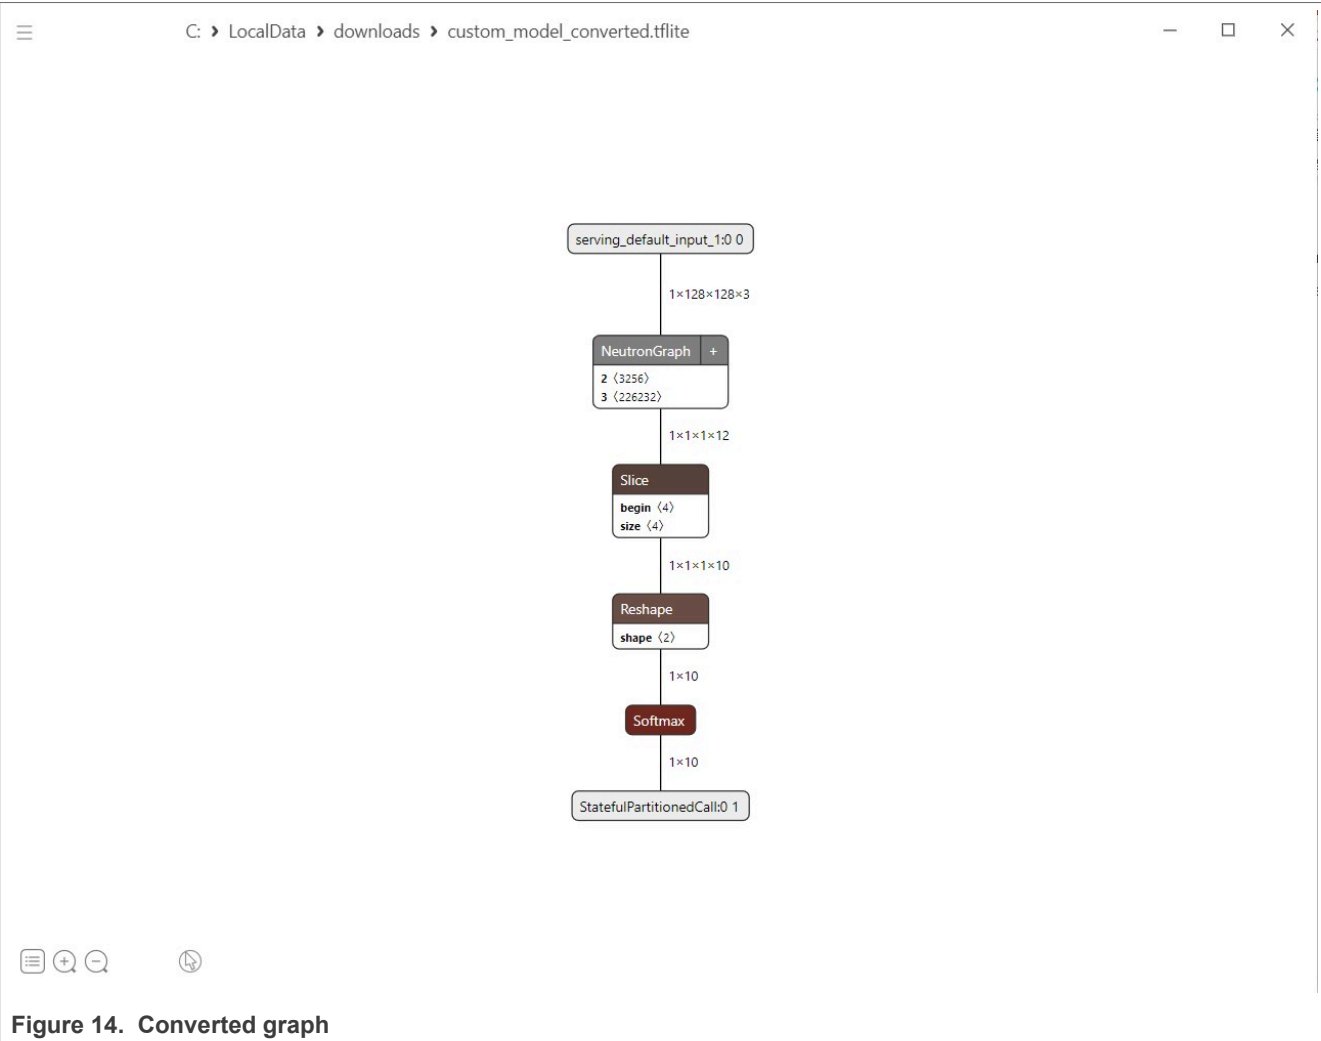

Figure 14. Converted graph
4. Click the **Convert** button, and select the save path for the converted model. After converting successfully, the converted graph is shown in the window as in Figure 14
- 5. The Neutron Converter tool changes the graph of the model to convert operators that can be run on the NPU into custom NeutronGraph nodes as can be seen in Figure 14. The converted model is named `custom_model_converted.tflite`.